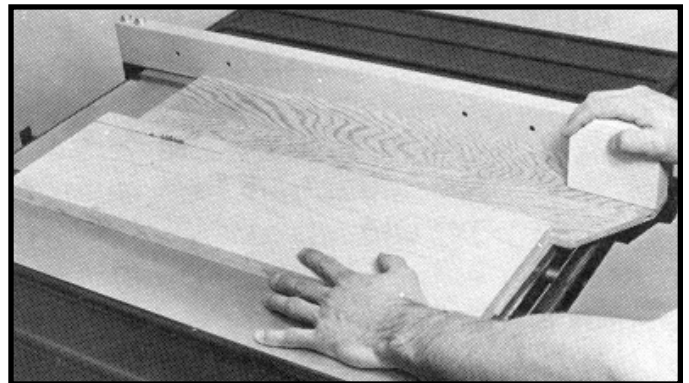
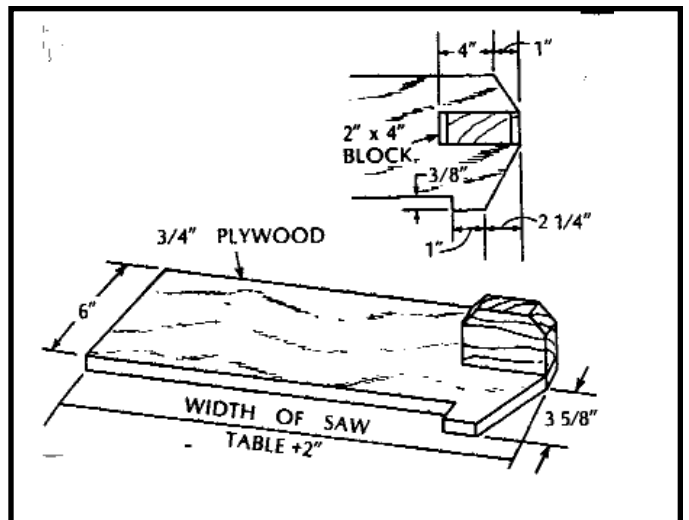

Fig. 52
Fig. 53
3. Ripping narrow pieces can be dangerous if not done carefully. Narrow pieces usually cannot be cut with the guard in position. If the workpiece is short enough, use a pushboard. When ripping material under 2 inches in width, a flat pushboard is a valuable accessory since ordinary type sticks may interfere with the blade guard. When using a pushboard, the width of the pushboard must be added to the width of the rip fence position setting. A flat pushboard can be constructed as shown in Fig. 53 and should be used as shown in Fig. 52